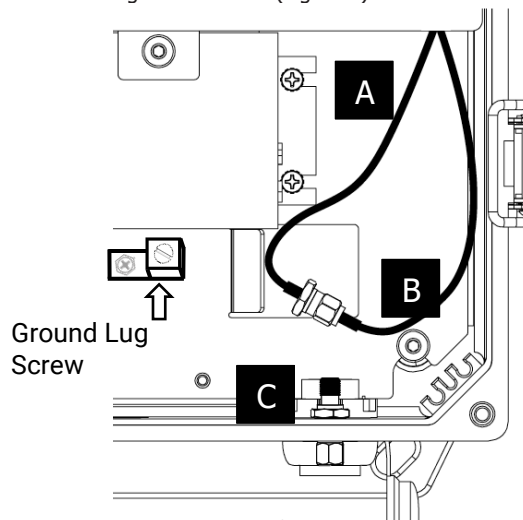

Figure 2
(See Figure 2)
1. With the lower cover of the wiring compartment removed, find the cable A and B and connector C as shown below in the bottom right of the unit. (Figure 2).